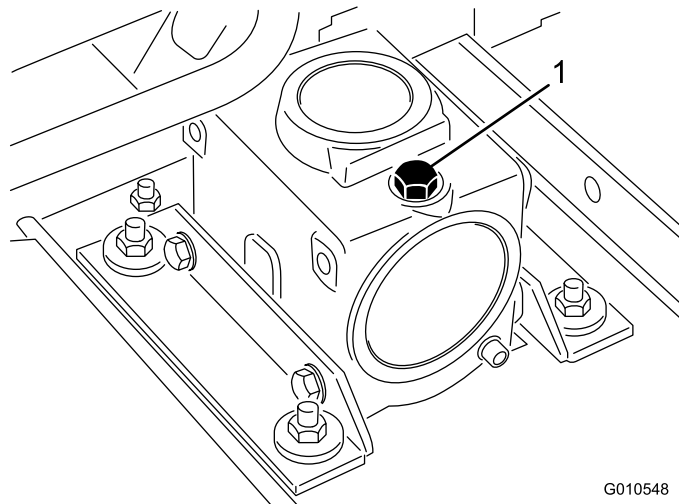

Figure 6
2. Remove the dipstick/fill plug from the top of the gear box (Figure 6) and make sure that the lubricant is between the marks on the dipstick. If the lubricant level is low, add enough lubricant until the level is between the marks.